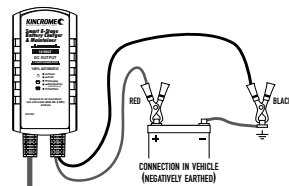

Fig. 2
- FIRST Connect the RED (+) Crocodile clip or ring terminal lead to the positive (+) battery terminal and then connect the BLACK (-) Crocodile clip or ring terminal lead to the vehicle's chassis (Fig 2).